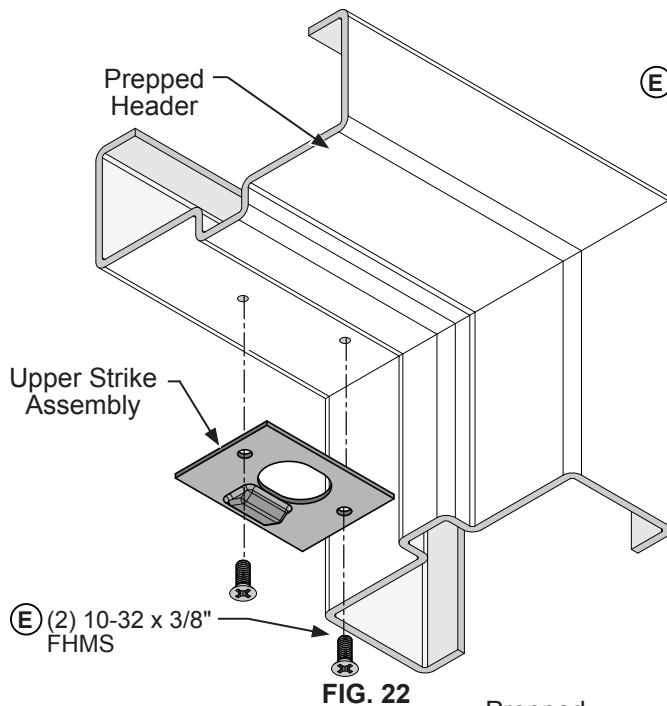

FIG. 22
Drill a 1" diameter hole and drill and tap for (2) (E) 8-32 x 1/2" FHMS on the mark made in step 2 of the frame preparation on page 16. Attach the upper strike to header using (2) (E) 8-32 x 1/2" FHMS. (Fig. 22)